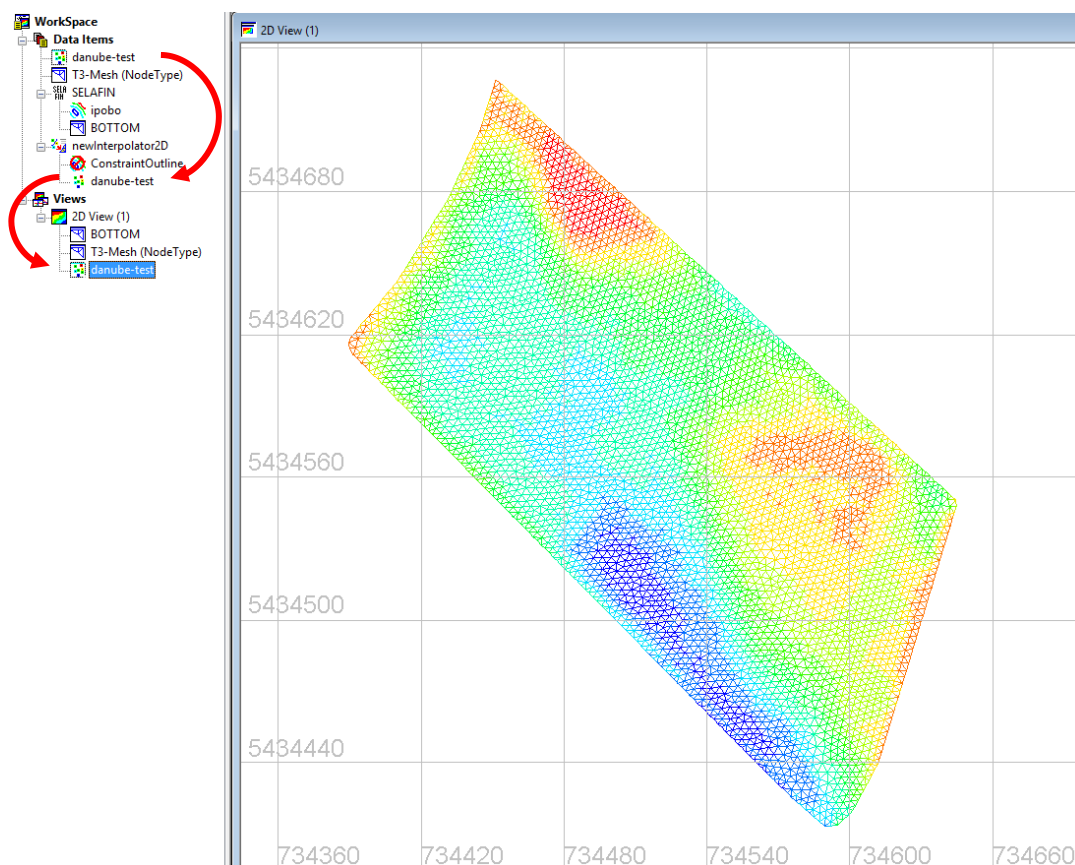

Figure 4: Creating a SELAFIN object.
5. Click “File → New → 2D Interpolator...”. A “newInterpolator2D” object will appear in the “Data Items” panel. Then drag the DEM onto “newInterpolator2D” (see Figure 4).